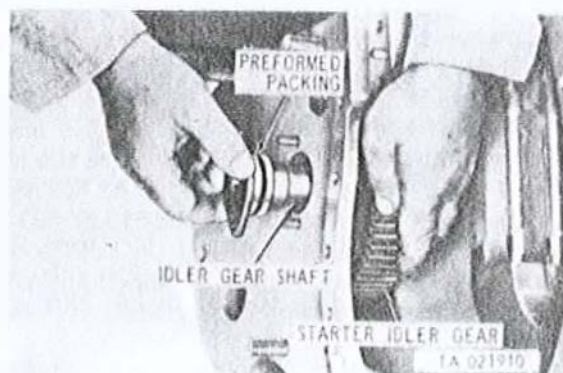

Figure 3-308. Installing starter idler gear.
a. Install new preformed packing (fig. 3-308) on starter idler gearshaft and install idler gear and align with idler gearshaft bore in crankcase. Secure starter idler gearshaft to crankcase with